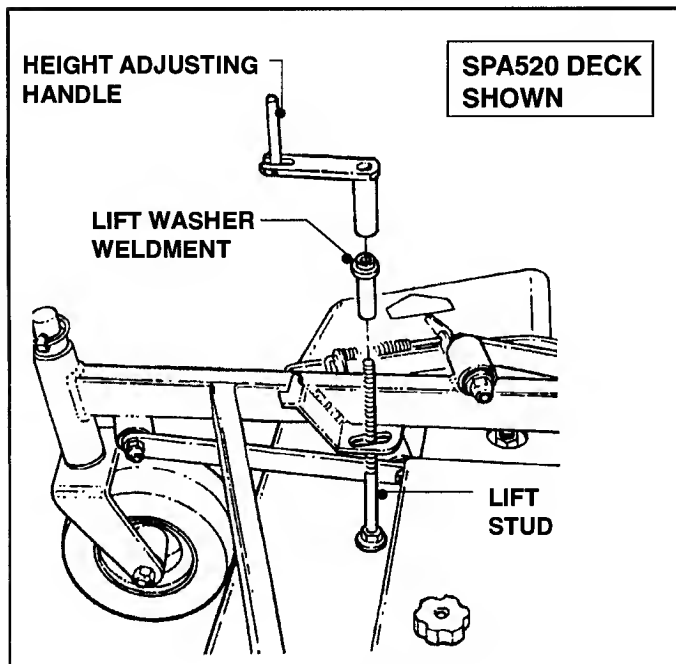

FIGURE 5.24
5. Insert the Lift Washer Weldments (No. 4-6214) over the Lift Studs as shown in Figure 5.24.